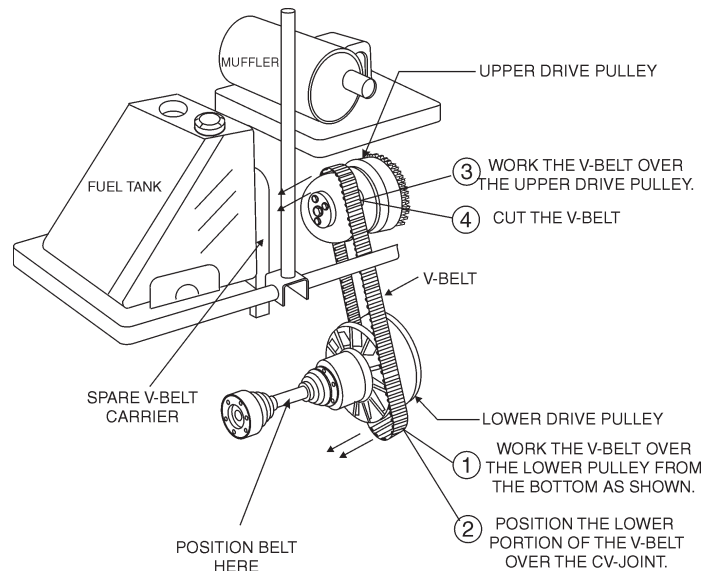

Figure 12. Drive Belt Removal
5. Work the drive belt over the lower drive pulley as shown in Figure 12, position it over the CV-joint boot, then pull the belt over the upper drive pulley also shown in Figure 12.